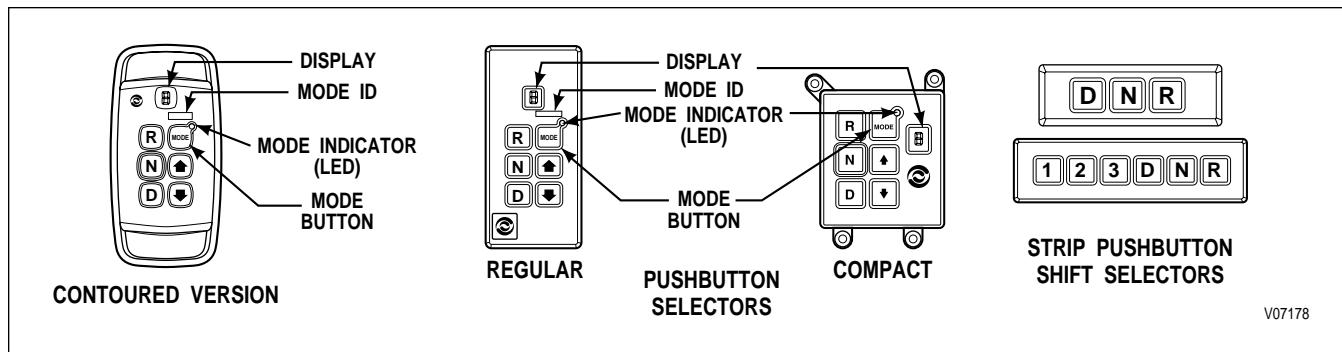

Figure 1–4. Pushbutton Shift Selectors
B. Lever Shift Selector (*Figure 1–5*)